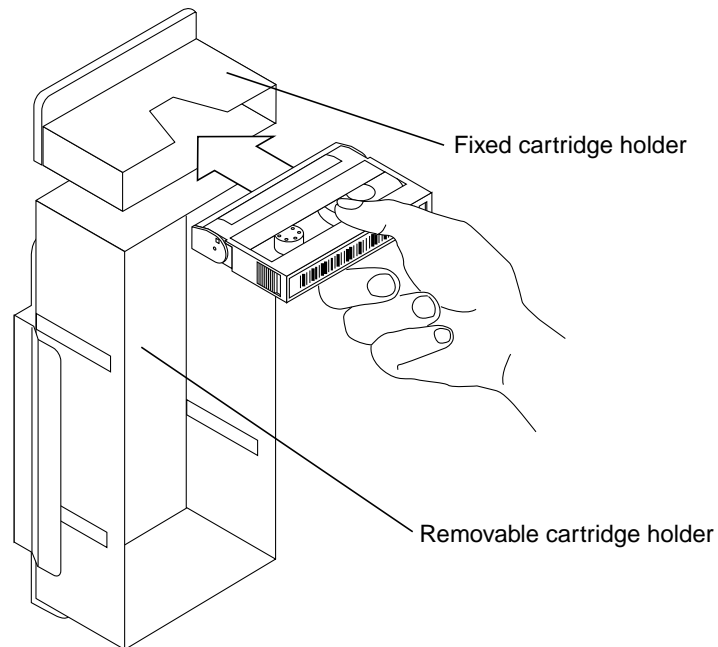

Figure 2-8 Inserting a Cartridge in the Fixed Holder
- ◆ **Insert the cartridge into the fixed cartridge holder until it snaps into place.** See Figure 2-8. Close the door and lock it by turning the key counterclockwise 90 degrees.